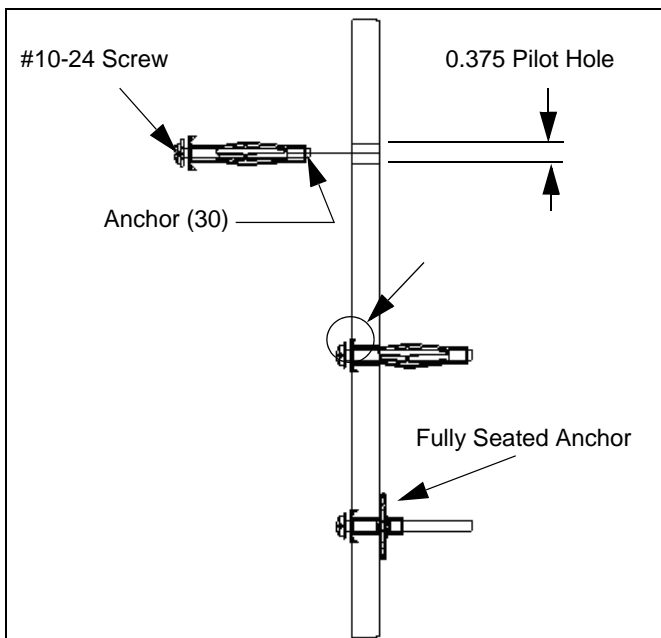

Figure 4: Install Anchors
7. Install an anchor (30) in one of the pilot holes and tighten anchor bolt until it is fully seated. (see figure 4)
8. Remove and retain bolt from anchor (30) and repeat for remaining anchors (30).